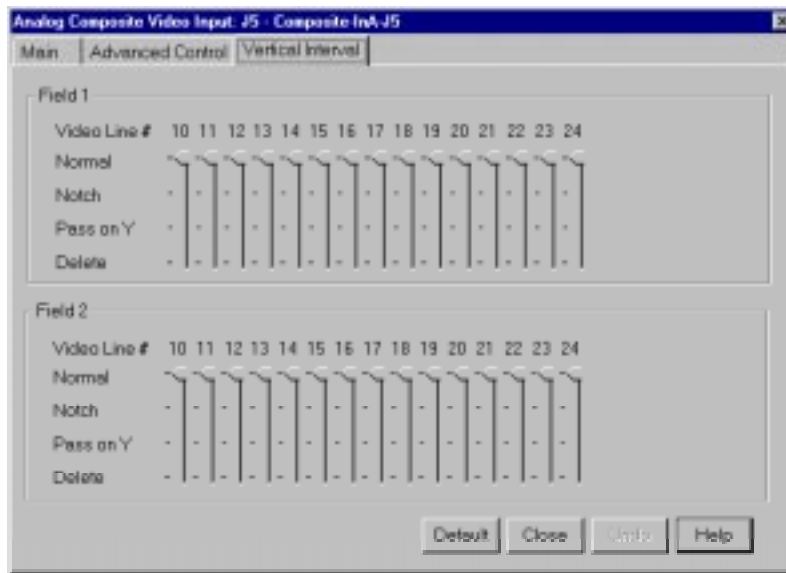

Figure 17. Analog Composite Video Input dialog box, Vertical Interval tab
1. Click or double-click on the **Vertical Interval** tab (see Figure 17).